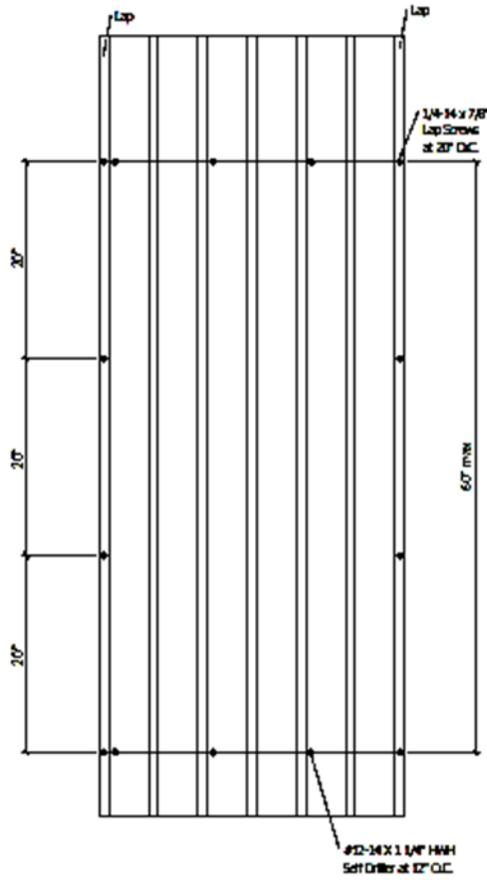

Figure 1. Minimum 26-Gauge PBR Panel Fastener Pattern
- **Attachment of Metal Panels to the Steel Purlins/Girts:** For panel-to-purlin/girt attachment secure to the steel purlins/girts with No. 12-14 x 1-1/4" long Hex Head w/ 9/16" Steel Washer. Locate a line of fasteners along each steel girts. Tables 1 through 4 specify the fastener pattern and spacing. Use fasteners long enough to ensure a minimum penetration of 3 pitches of thread below the steel girt. Refer to Figure 1 in this evaluation report.
- **Panel Ends and End Laps to Steel Purlins/Girts:** Minimum No. 12-14 x 1-1/4" Hex Head with 9/16" steel Washer. Tables 1 through 4 specify the fasteners pattern. Use fasteners long enough to ensure a minimum penetration of 3 pitches of thread below the steel girt. Refer to figure 1 for an illustration of the fastener pattern.
- **Panel Edges to the Steel Purlins/Girts:** Minimum No. 12-14 x 1-1/4" Hex Head w/ 9/16" steel washer. Tables 1 through 4 specify the fasteners pattern. Use fasteners long enough to ensure a minimum penetration of 3 pitches of thread below the steel girt. Refer to figure 1 for an illustration of the fastener pattern.